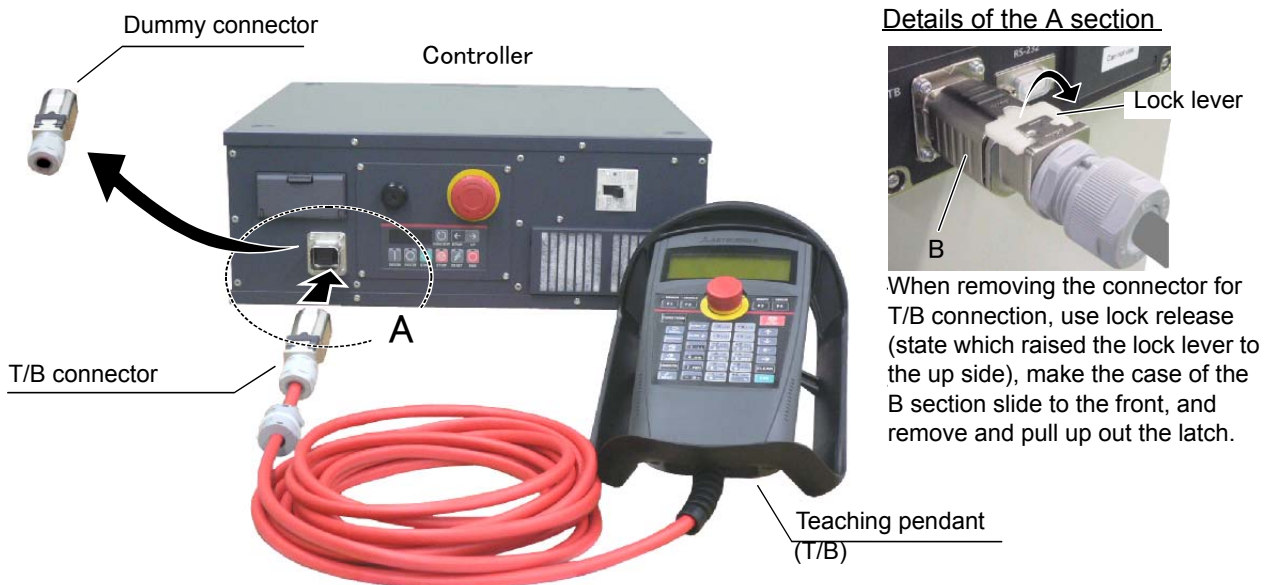

Fig.2-8 : Installing and removing the T/B (CR750 controller)
- 2) Connects T/B connector to the robot controller. Use as the upper surface the lock lever shown in Fig. 2-8, and push in until there is sound.